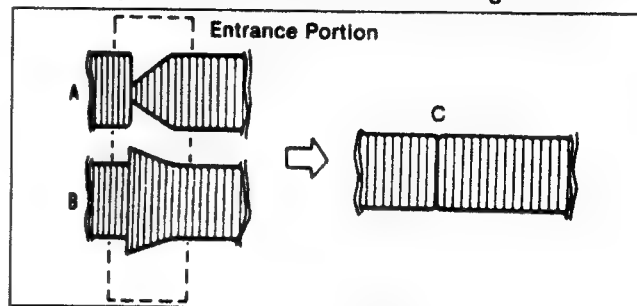

Figure M26-B
6. If the RF envelope appears like example D or E in Figure M26-C, then adjustment of the tape guide post (P3:Exit) is necessary.